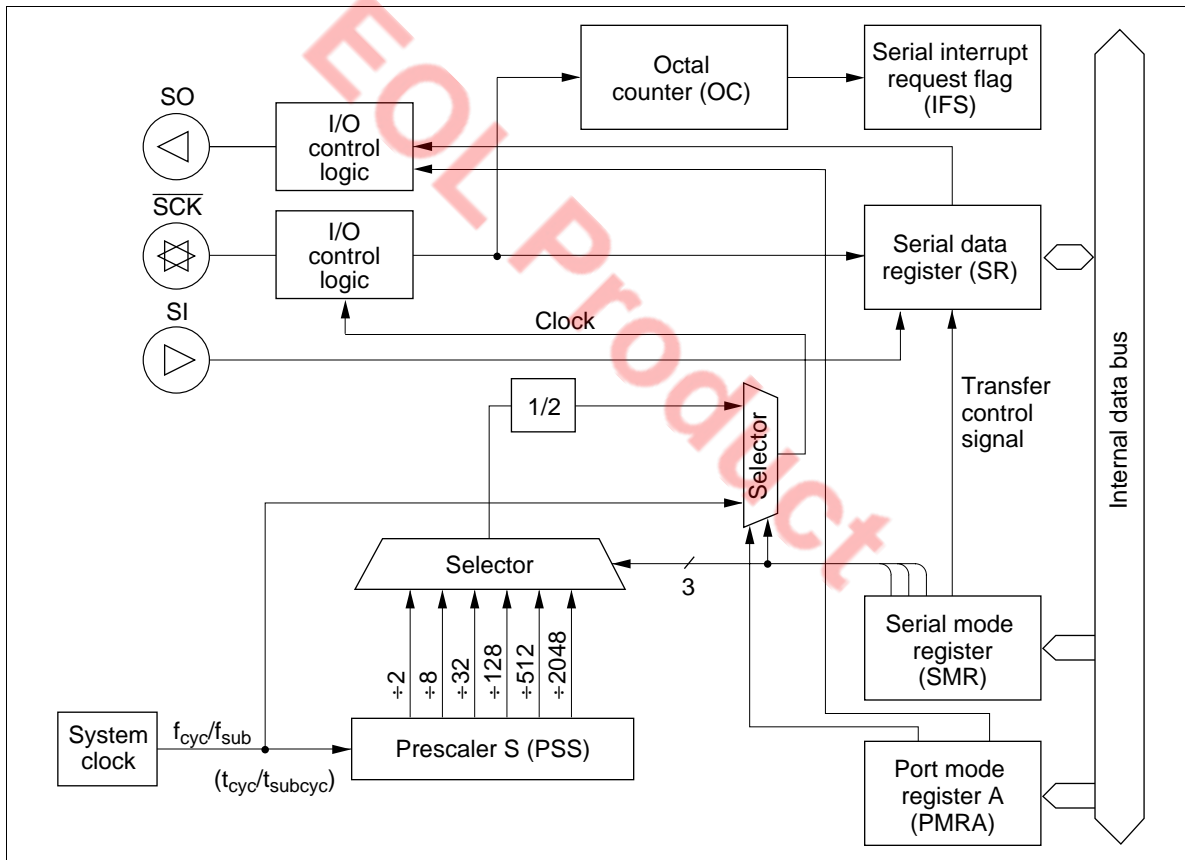

Figure 30 Serial Interface Block Diagram
The serial interface consists of a serial data register (SR), serial mode register (SMR), port mode register A (PMRA), octal counter, and multiplexers (see figure 30). The $R0_{\overline{SCK}}$ pin and the transmit clock are controlled by writing to the SMR. The transmit clock shifts the contents of the SR, which can be read and written to by software.